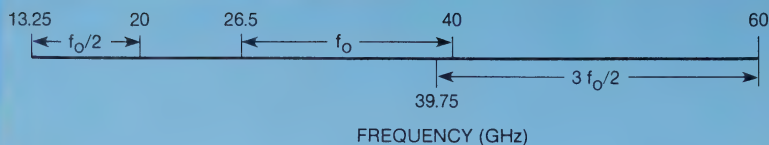
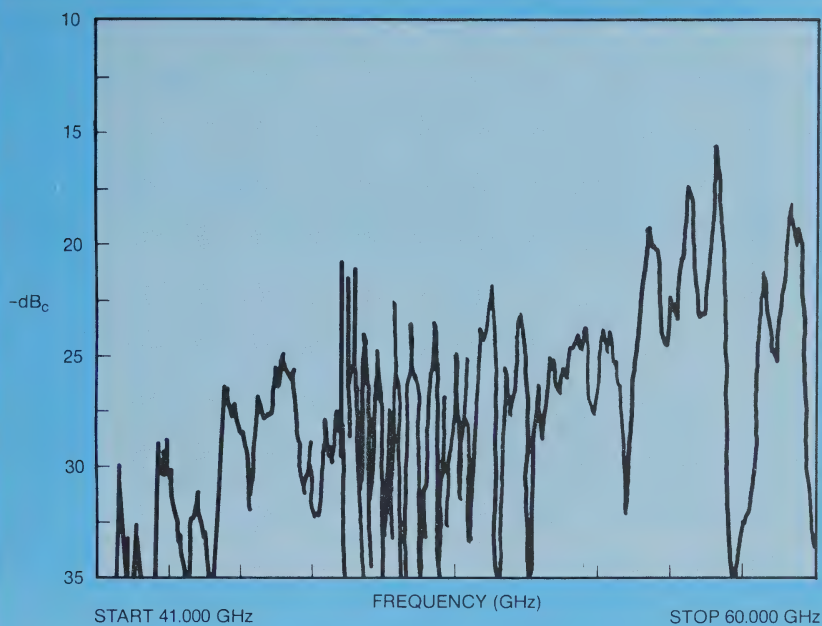

Figure 8A. 26.5 to 40 GHz harmonic products.
Figure 9. 26.5 to 40 GHz $3/2 f_0$ harmonic.
26.5 to 40 GHz: This band is generated on the WJ-1204-42 by doubling 13.25 to 20 GHz. The harmonic products from this doubler are plotted in Figure 8A. The output will not contain any 13.25 to 20-GHz feedthrough because this signal is cut off by the waveguide. However, the $3/2$ harmonic is of interest as it falls in band at 39.75 GHz, and various modes may be present out of band. Figure 9 shows the $3/2$ harmonic to be at least 20 dB below f_0 .